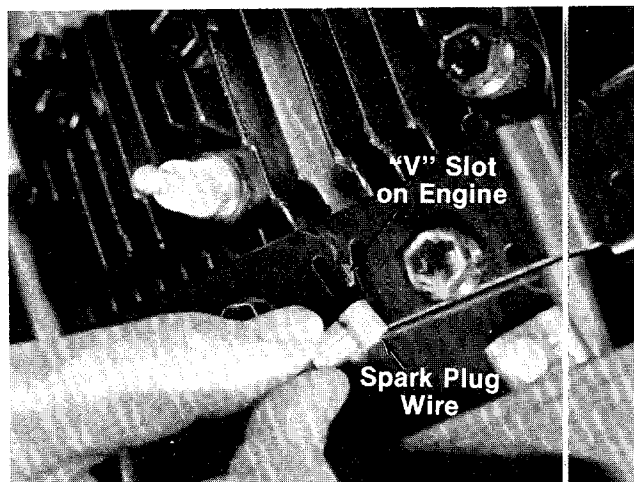

FIGURE 8.
10. To check the adjustment, disconnect the spark plug wire from spark plug to prevent accidental starting. Secure end of spark plug wire in the "V" slot on the engine. See figure 8.
Remove the spark plug wire from spark plug and ground against the engine block (secure in "V" slot) before making any adjustments or performing maintenance. See figure 8.